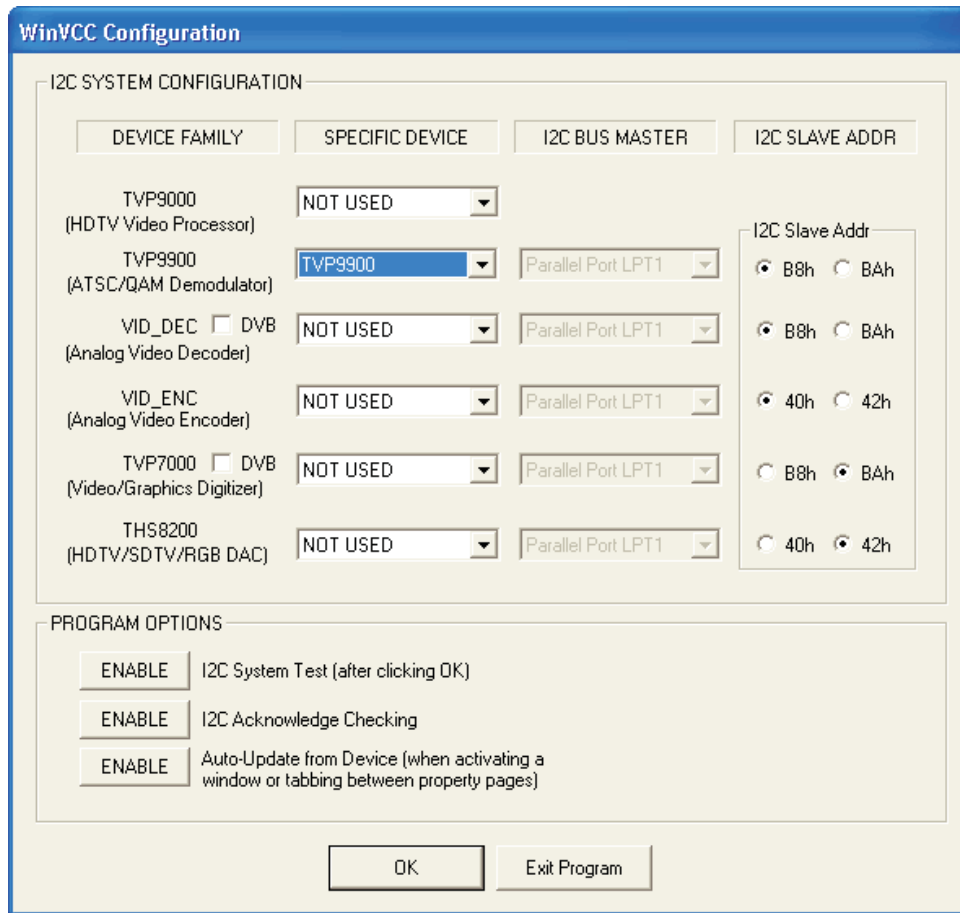

Figure 1. WinVCC – I²C Configuration Screen
1. Once the EVM software is executed, the WinVCC Configuration screen appears, as shown in Figure 1. This dialog box configures the I²C bus. Next to TVP9900, select the TVP9900 and ensure the I²C address is set to 0xB8. This must match the I²C ADDR jumper on the TVP9900 board.